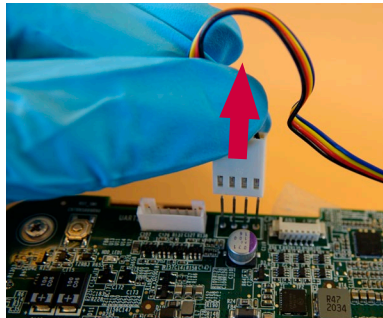

Figure 23 Disconnect the fan cable
a) Disconnect the fan connector (Figure 23)
- g) Connect the fan cable (see Figure 12 and Figure 23)